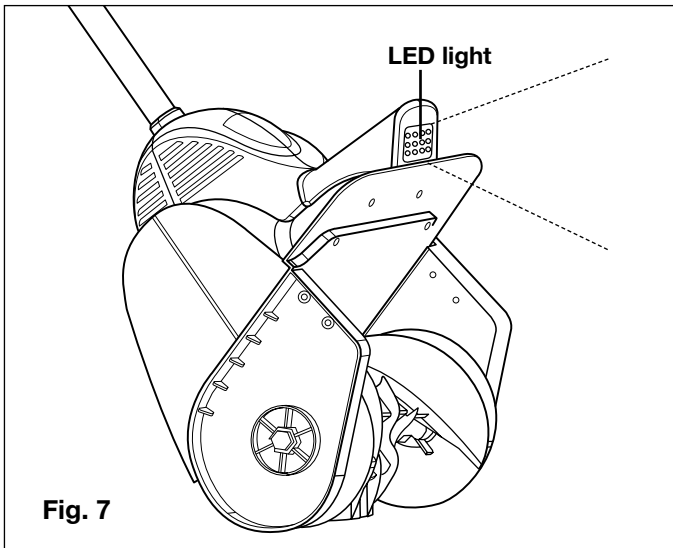

Fig. 7
- This electric snow shovel is equipped with a 2 W LED light to facilitate clearing at night and under conditions of poor visibility (Fig. 7). When you start the machine, the LED light will automatically power on and illuminate the path in front of you. When you stop the machine, the LED light will automatically power off.